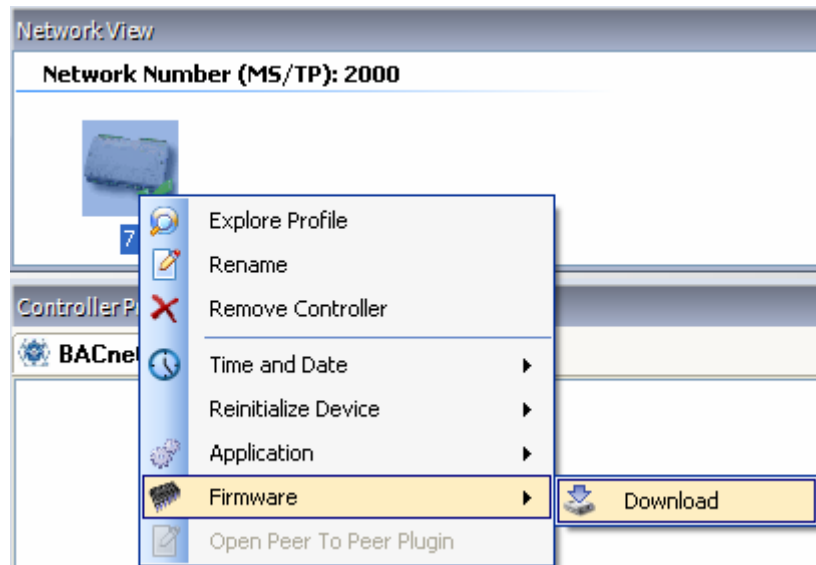

Figure 29: Selecting Application Download
2. Right-click the selected device (Figure 29) and select Download from the Firmware menu. The Select File to Download window appears.